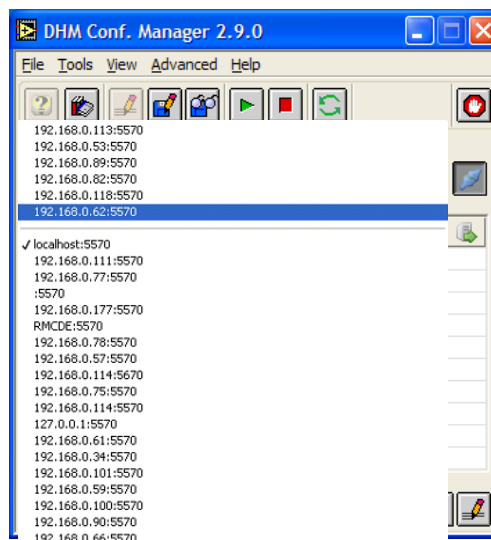

Figure 16: DHM server list
- When you try to connect to a DHM Background Server that is not running at the moment (so it may appear in the list below the horizontal line when it was active in the past, see Figure 16), you will get the following error dialog: